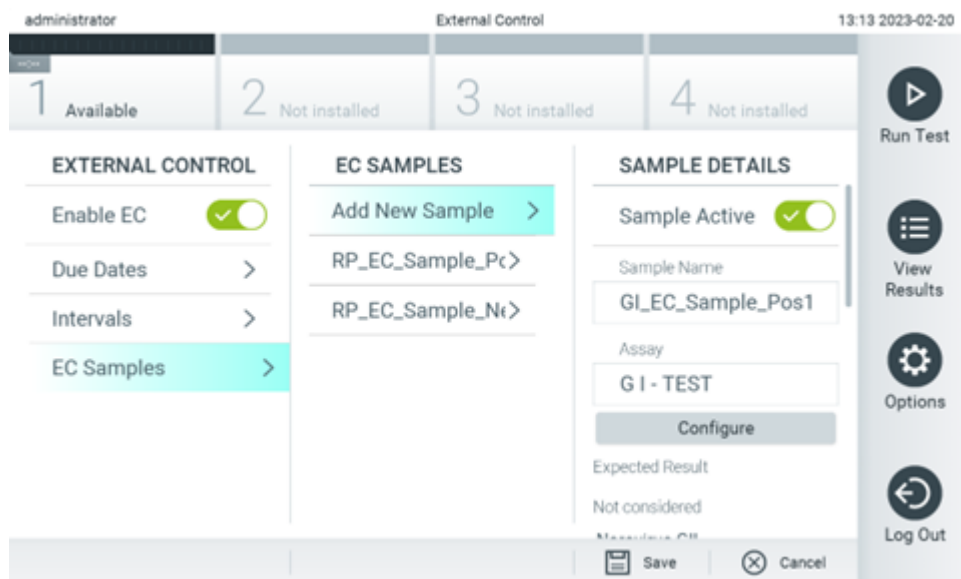

Figure 79. External Control EC Samples screen.
- Select **EC Samples** to add or edit samples which are used in an External Control test. To add a new EC Sample, press **Add new Sample** and then continue with the configuration in the right column (Figure 79). To edit an EC sample, select an existing one from the middle column and continue with the configuration in the right column.
6. Select **Configure** to edit the analytes in an External Control test (Figure 79). In the External Control EC Sample configuration, it can be determined whether an analyte is considered for the External Control EC run and whether a detection is expected (Figure 80).